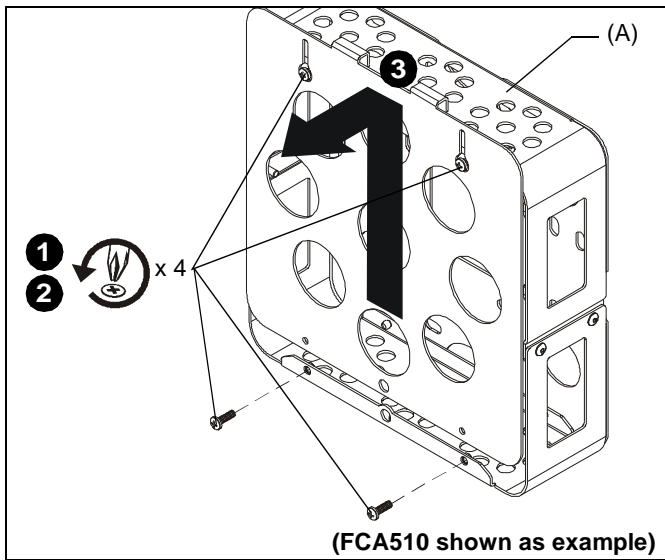

Figure 1
1. Remove two Phillips screws from base of FCA510/FCA515 (A). (See Figure 1)
2. Loosen, but do not remove, two Phillips screws at top of FCA510/FCA515 (A).
3. Lift up enclosure door and remove from enclosure. (See Figure 1)